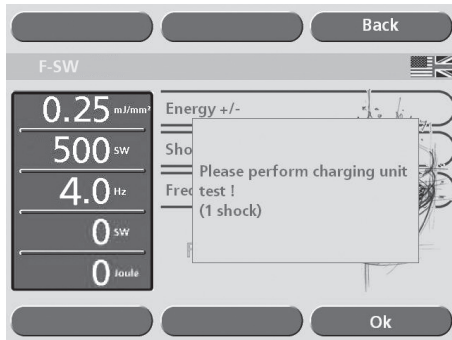

Fig.3-6 High-voltage test
- When prompted to do so (Fig.3-6), briefly touch the trigger button on the F-SW handpiece or the foot switch.